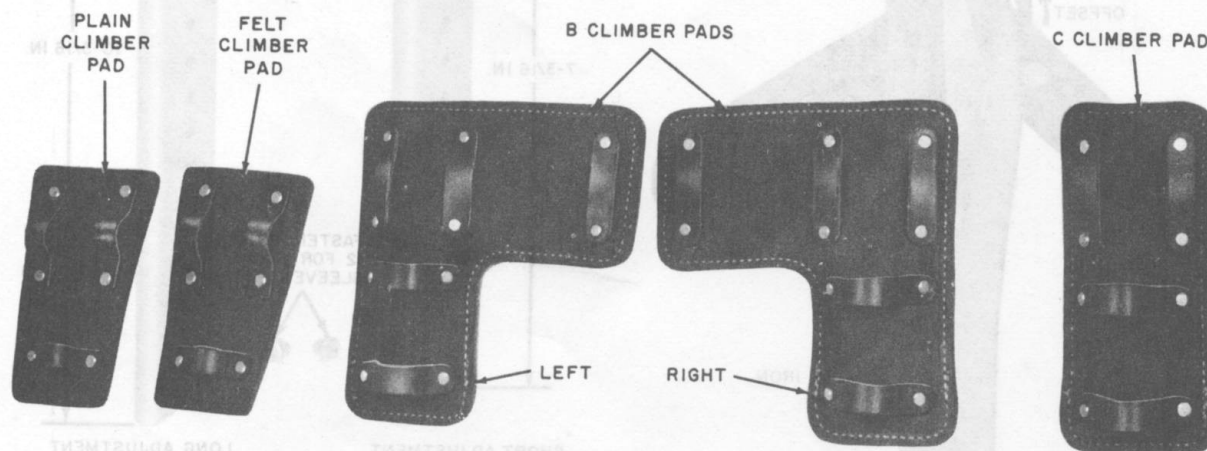

Fig. 4—Pads
**2.09** Pads are used with climbers to protect the shins and calf of the leg against irritation by rubbing when the climbers are strapped to the legs. Plain leather, felt lined, and cushioned pads are available as shown in Fig. 4. Cushion pads are coded B climber pads (angle) and C climber pads (straight). The plain and felt lined pads are generally used when wearing boots that cover the calf of the leg. The wrap-around design of the